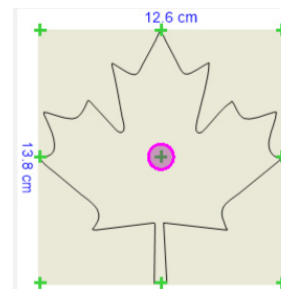

Fig. 5
9. Click on any of the green crosses to change the Point of Origin and move the laser to this position relative to the design. (See Fig. 5)